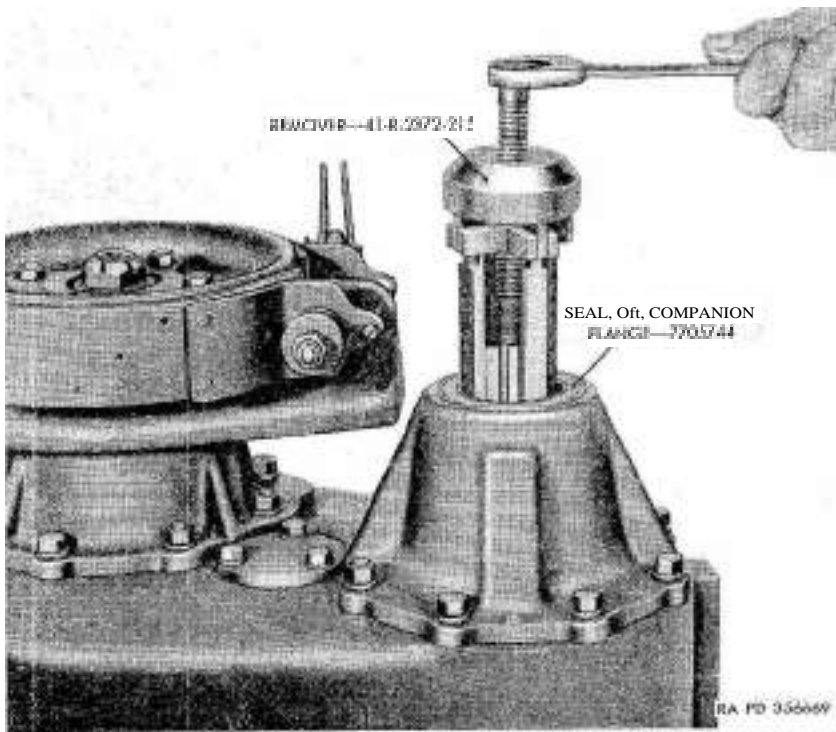

Figure 125. Removing companion flange oil seal.
a. *General.* To facilitate disassembly of the rear axle output shaft bearing retainer assembly, it is necessary to remove the companion flange and companion flange oil seal before the bearing retainer assembly is removed from transfer case. This is necessary in order to provide a support for the screw in remover 41—R-2372-215 (fig. 125).
- (4) Remove companion flange oil seal (G) with remover 41—R-2372-215 (fig. 125).
- (5) Remove screws, nuts from studs, and lock washers, which hold rear axle output shaft bearing retainer assembly to transfer case. Remove retainer assembly and gasket from transfer case.